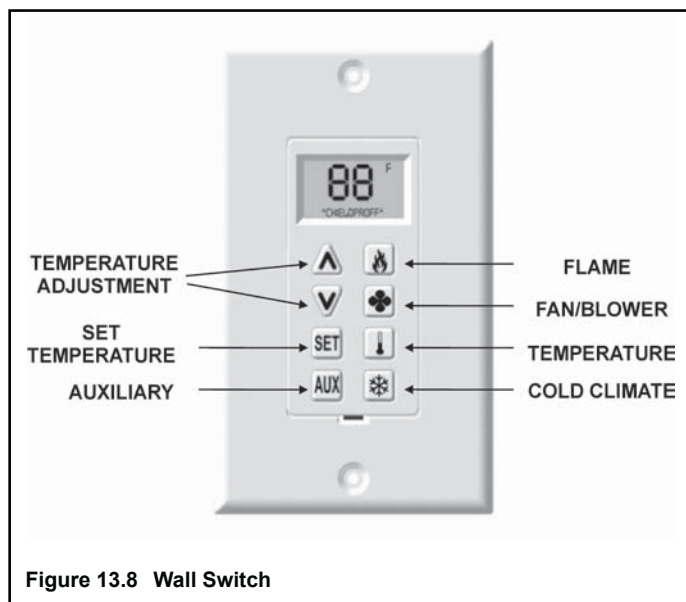

Figure 13.8 Wall Switch
- Press flame button once (see Figure 13.8); fireplace will light with flames on high.
- Turn solenoid clockwise to increase pressure, counterclockwise to decrease pressure until manifold pressure on high is 3.5 in. water column for natural gas (NG), 10.0 in. water column for propane (LP).
(Refer to Figure 13.8.)